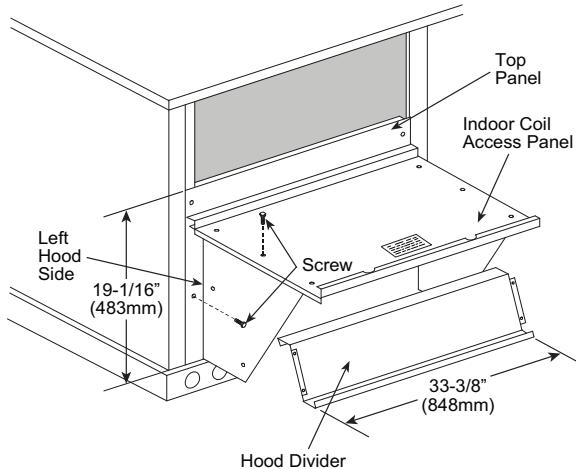

Fig. 13 – Economizer Hood Construction
2. Swing out indoor coil access panel and insert the hood sides under the panel (hood top). Use the screws provided to attach the hood sides to the hood top. Use screws provided to attach the hood sides to the unit. See Fig. 13.
4. Insert the hood divider between the hood sides. See Fig. 13 and 14. Secure hood divider with 2 screws on each hood side. The hood divider is also used as the bottom filter rack for the aluminum filter.